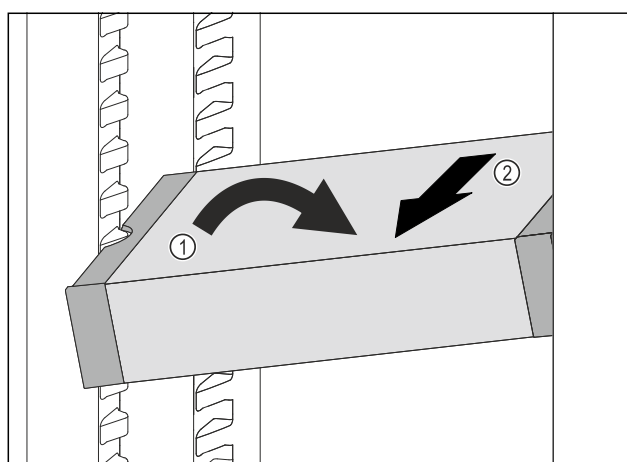

Fig. 140
- ▶ Set VarioSafe in refrigerator compartment at an angle. Fig. 140 (1)
- ▶ Take VarioSafe out to the front. Fig. 140 (2)